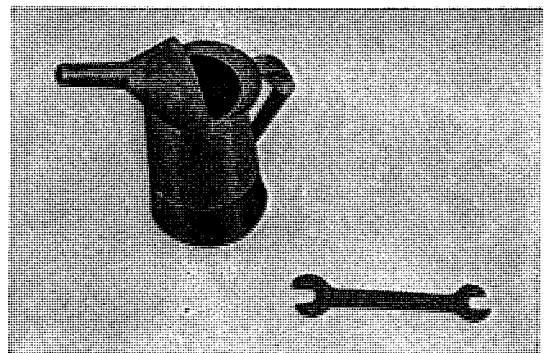

Fig. 6.40 Tools required to change oil
- a. Tools required. (Refer to Fig. 6.40)